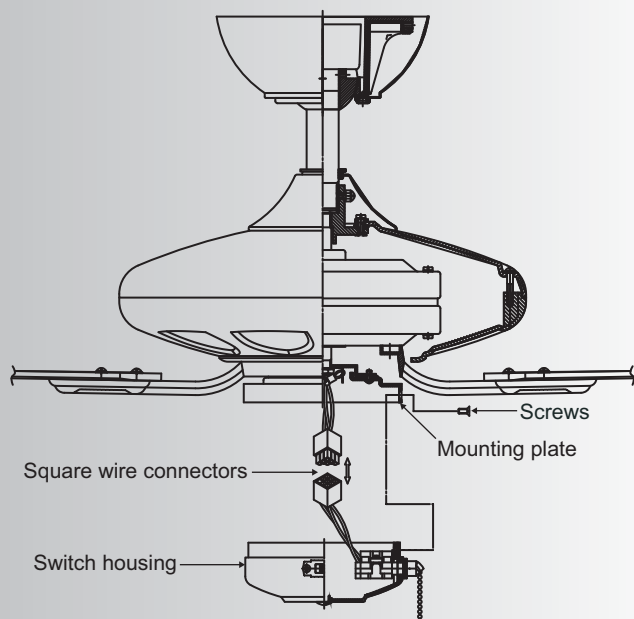

Fig. 16
Step 1. While holding the switch housing under your ceiling fan, push the square wire connectors together. One from the fan and one from the switch housing. (Fig.16)
Attach the switch housing to the mounting plate with the screws provided. Make sure each screw is tight. (Fig. 16)